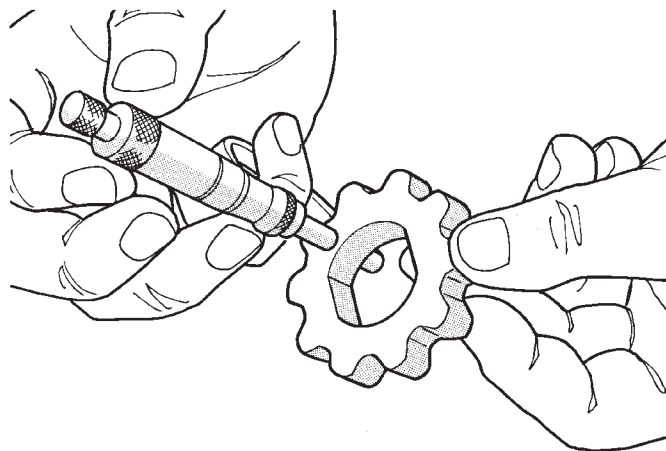

Fig. 110 Measuring Inner Rotor Thickness
(4) If inner rotor measures 9.39 mm (0.3695 inch.) or less replace inner rotor (Fig. 110).